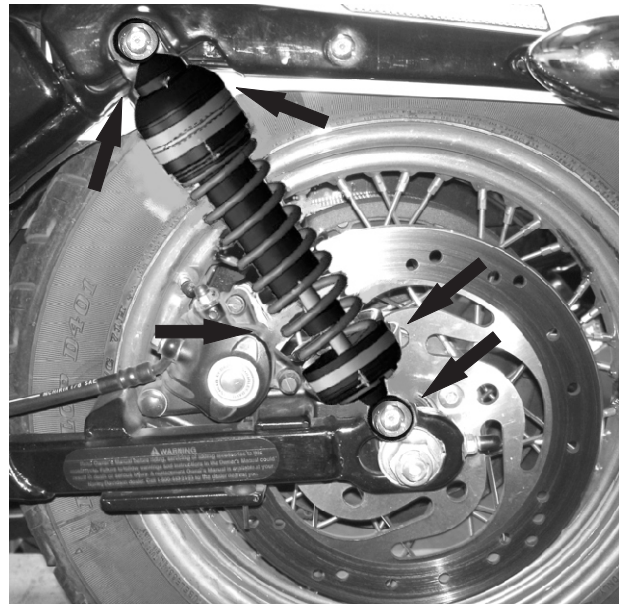

Fig1
3. Before installing your new Progressive shocks you need to check the tire to fender clearance, making sure that the tire does not come in contact with the fender. If the rear fender or tire has been changed to anything other than stock, a travel limiter may be required. On some models with side bags or luggage, the bag or luggage mounts may need to be modified to eliminate any interference. Install the shock assemblies onto the motorcycle with the included hardware, note any special instructions in the hardware kit. Tighten bolts / nuts to their proper torque. Check the clearances of the shock to the frame, shock to chain or belt, shock to chain or belt guard and shock to brake caliper and/or linkage. See arrows in Fig 1 , check both sides.